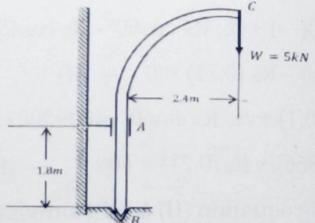

Fig 2.36
- 4) A crane is pivoted at end B and is supported by a smooth guide at A as shown in fig 2.36. Determine the reaction produced at A and B by a vertical load $W=5kN$ applied at C. (Ans.: $R_A=6.667kN(\leftarrow)$, $R_B=8.334kN$, 36.87°)
- 7) Two smooth rollers are connected by a bent rod ABC as shown in fig 2.36. Find reactions at D, E & F. Point 'A' & 'C' are frictionless pin connections. (Ans: $R_D = 4359N(\rightarrow)$; $R_E = 3202N(\uparrow)$; $R_F = 1165N$)